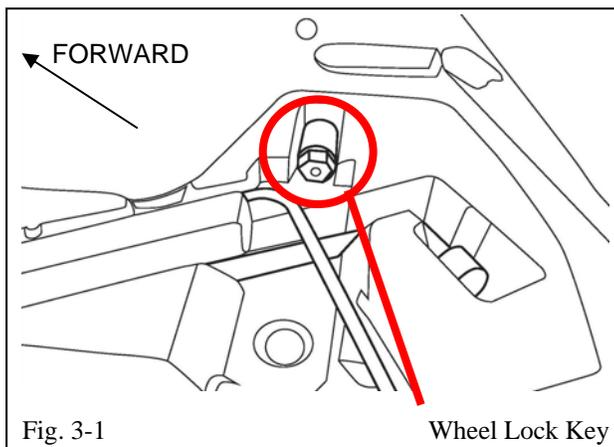

Fig. 3-1
- (a) Place the wheel lock key in the tool storage tray located on the right side of the rear cargo area (Fig. 3-1).